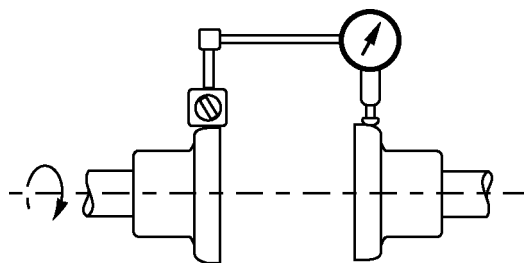
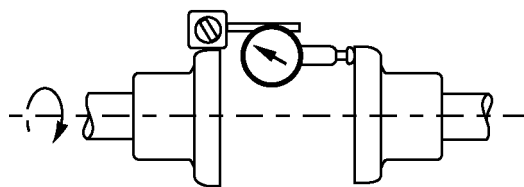

Figure 4
Figure 5
The dial indicator method for checking coupling alignment is preferred (refer to figures 4 and 5). To measure parallel misalignment, attach dial indicator to one coupling hub, or mount on one shaft end with the indicator button resting on the O. D. of the other coupling hub (figure 4) or shaft. To measure angular misalignment, the indicator button rests on the face of the other coupling hub near the O. D. (figure 5). Measure misalignment by rotating the shaft and dial indicator one full revolution; the other shaft remains stationary. Record the Total Indicator Runout (T.I.R.). Parallel and angular misalignment should be limited to  $\pm 0.002"$  T.I.R.
**Partial Recirculation System Figure 4**